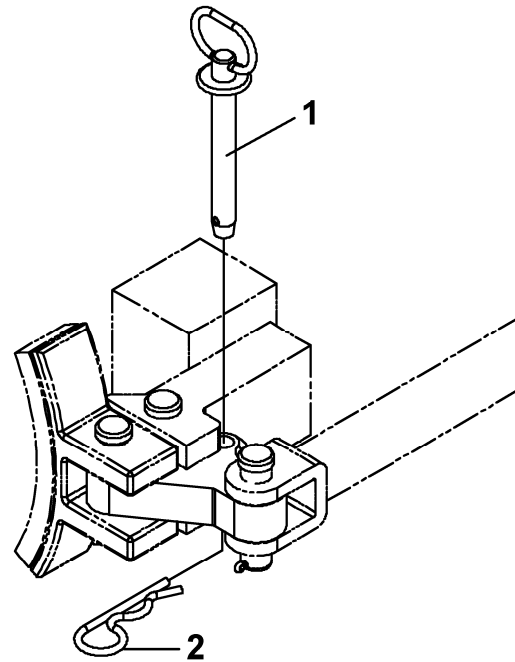

Figure 11
6. Have someone install two brake lock pins (1) and hairpin cotters (2) as shown in figure 11 on the two brake cylinder assemblies (Figure 12).